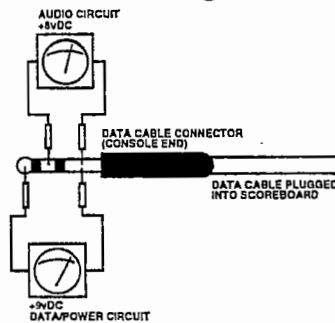

Figure 21
3. Using a volt meter, measure the voltage at the phone plug which would normally plug into the operator's console, see Fig. 21 below.